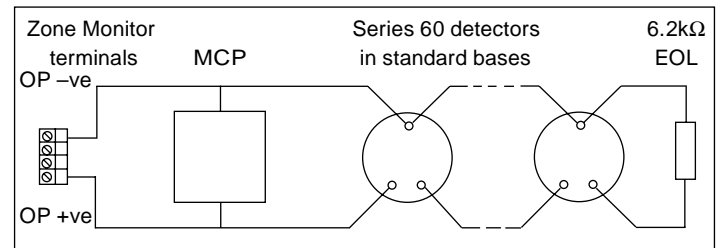

Fig.2 Zone connection - standard bases with 6.2 k $\Omega$  monitoring resistor at end-of-line
- 4. Manual call points can be located at any point in the zone wiring if active end-of-line monitoring with diode detector bases is used. If a 6.2 k resistor is used for monitoring, manual call points must be connected between the Zone Monitor and the first detector (see Figure 2).*